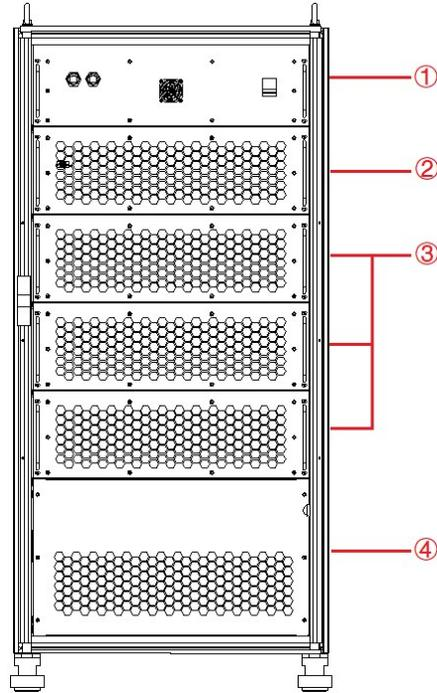

Figure 1-4 Internal structure
①	RS485 interface	Standard configuration, is used for remote control.
②	LAN interface	Standard configuration, it is a communication interface, and used for remote control.
③	TTL	Standard configuration, for users to observe the trigger signal after connecting with the oscilloscope
④	ATI interface	a. Analog control interface-Phase A b. Analog control interface-Phase B c. Analog control interface-Phase C Optional, analog control interface (-ATI option)
⑤	Product brand	The input / output configuration of the product is marked.
As shown in Figure 1-4, take KGS 45-300-50 as an example, from top to bottom, the internal modules of KGS series are: ① control box layer, ②③ module layer, ④ component layer, wiring layer and other interface layers.